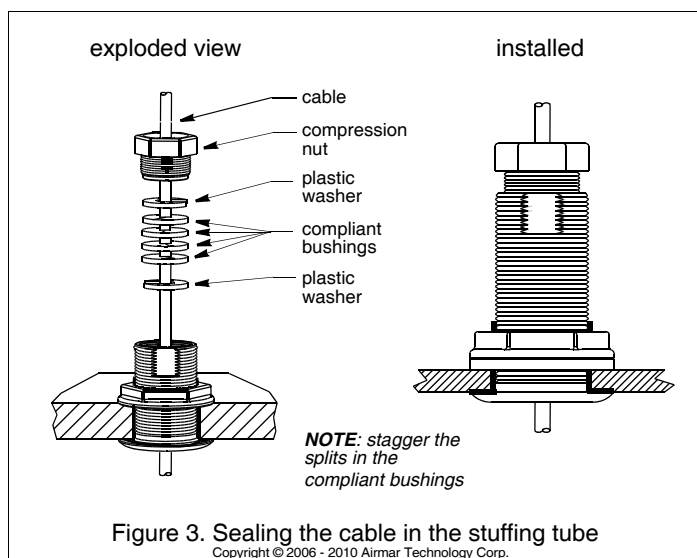

Figure 3. Sealing the cable in the stuffing tube
2. The kit also contains four sets of compliant bushings with four bushings in each set. Choose the set of compliant bushings with the smallest diameter that will fit around your cable. (Discard the other sets; they are *not* needed.) Place the four compliant bushings around the cable *above* the plastic washer (see Figure 3). Arrange the bushings so that the splits are staggered—*not* aligned. At the top of the stack, press the second pair of plastic washers together to form a closed ring. *Be sure the plastic washers and compliant bushings are stacked as shown in Figure 3.*